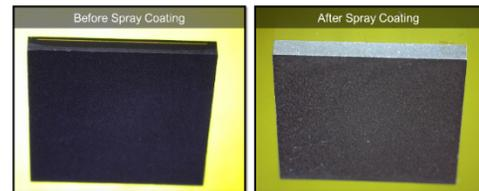
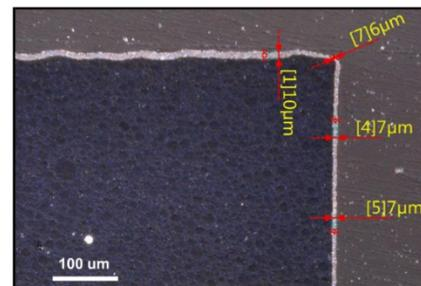

Figure 1: After coating 3um thickness of Electroninks EI-1208 by Spray Coating
Figure 2: Microscope cross section image of coated chip.
Electromagnetic Interference (EMI) shielding for wireless devices is commonly achieved by using metal faraday cages, commonly called “cans” or “lids” that are soldered to a PCB board. These cans are bulky, difficult to rework, and become very challenging when several Radio Frequency (RF) chips are placed near each other. A solution to this is coating the chip packaging with metal as shown in Figure 1.
A chip coated with EI-1208 ink is shown in figure 1. The ink conformably coats the sidewall surfaces as shown by the example chip in Figure 2. The shielding effectiveness (S.E.) of the ink has been tested by Parker Chomerics (ASTM D4935) and shows minimum 60 dB of signal attenuation from 30MHz to 1500 MHz. Increasing the coating thickness past 3um should only increase the shielding effectiveness.